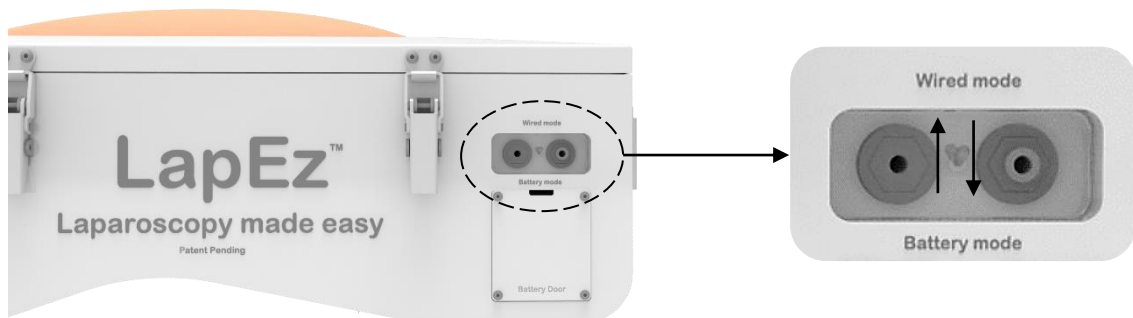

Fig 11. Mode Switch
5.3 Choose the mode of operation, using the switch, before turning ON the system by selecting either Wired Mode or Battery Mode. Refer Fig 11.